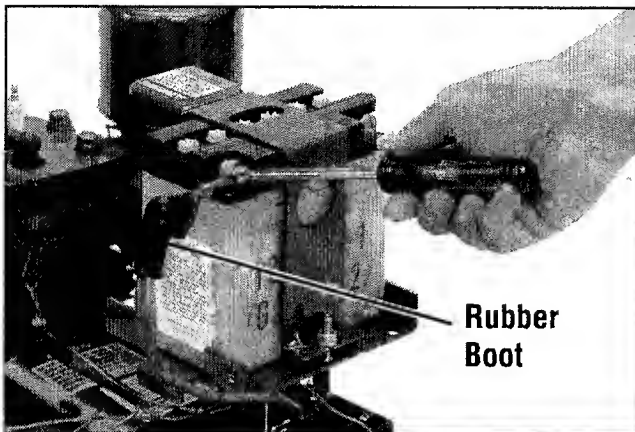

Figure 2-20: Attach positive (+) battery cable. Cover connection with rubber boot.
1. Locate the positive battery cable which is connected to the starter solenoid on the left-side of the battery post (a rubber boot covers the connection). A second rubber boot is loosely installed on the cable. Using the small screw and nut from the hardware bag, connect the loose end of the cable to the positive (+) post on the battery. See Figure 2-20.